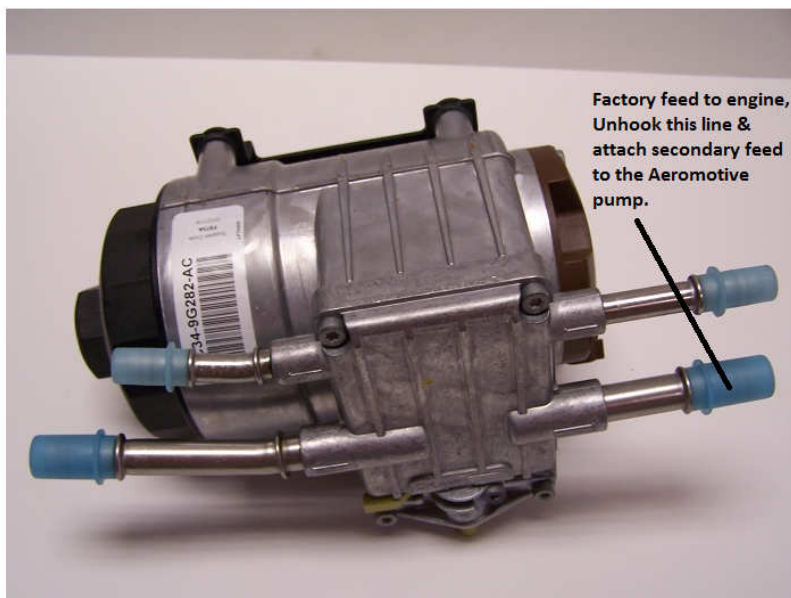

FIGURE 1-15
19. Disconnect the factory J2044 connector from the factory fuel pump outlet (factory fuel pump located right below the drivers floor board mounted to inside of frame). Connect the female/female 3/8" hose to the factory fuel pump outlet and route this line to the fitting for "inlet connection from factory fuel pump outlet". With the last hose, connect it to the outlet on the Aeromotive pump and route it to the factory line you disconnected from the factory pump. **FIGURE 1-15**